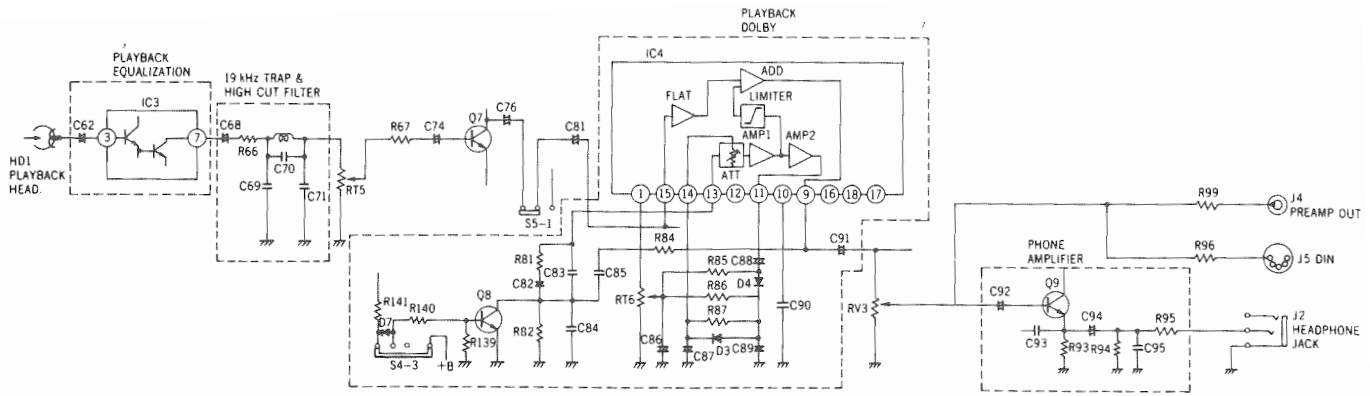

Figure 8
3. Playback Circuit of SCT-30 (Refer to Figure 8)